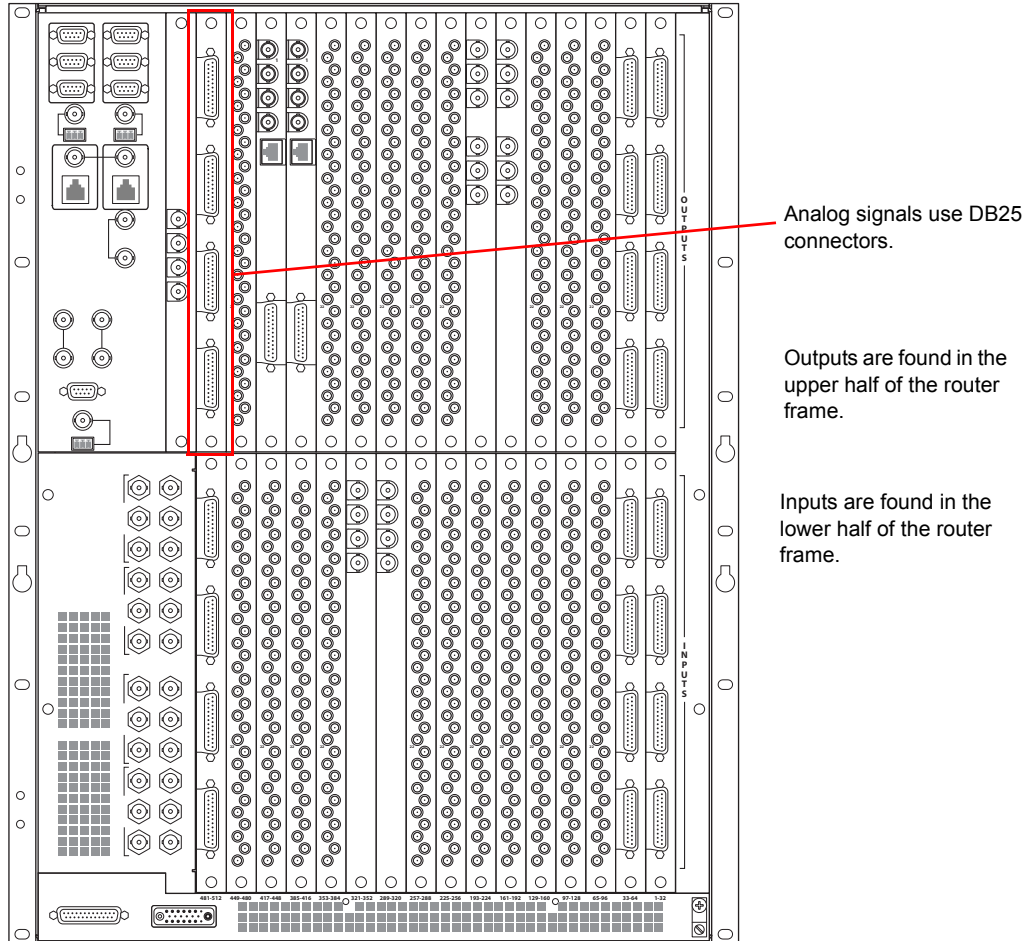

Figure 2-11. Analog Signal Connections (Rear View)
- 1 Locate the analog *input* connections on the rear of the router, as shown in Figure 2-11. Inputs are located in the lower half of the router frame. The exact location of the backplanes and corresponding connectors may be different depending on your router configuration.
- 4 Locate the analog *output* connections on the rear of the router, as shown in Figure 2-11 on page 50.